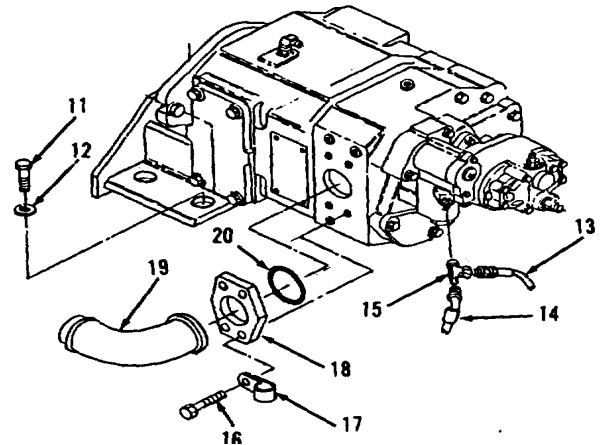

Figure 10-7.
2. Remove hose assembly (4) from pump assembly (24).
3. Remove and discard preformed packing (5).
4. Disconnect hose assemblies (6 and 7) from front of pump assembly (24).
6. Remove hose assembly (9) from combination valve.
7. Disconnect hose assembly (10) from top of pump assembly (24).
8. Remove four bolts (11) and washers (12, Figure 10-7).
10. Remove tee (15).
11. Remove four bolts (16), clip (17), flange (18), tube assembly (19) and preformed packing (20). Discard preformed packing (20).